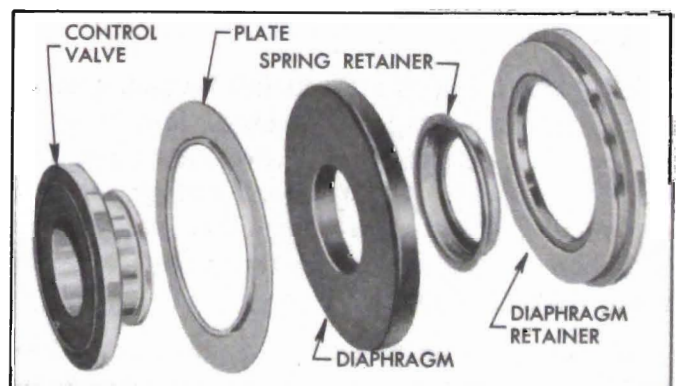

Figure 9-26—Control Valve and Diaphragm Disassembled
9. Remove diaphragm retainer from valve diaphragm, carefully pry off the valve spring retainer, then remove diaphragm and retainer plate from control valve. See figure 9-26.
10. Place *flat* side of retainer plate against *flat* side of valve diaphragm, push hub of floating control valve through plate and diaphragm, fitting flange of diaphragm into groove in valve, then press spring retainer over hub of valve. Slip outer flange of diaphragm over the smaller side of diaphragm retainer. See figure 9-26.